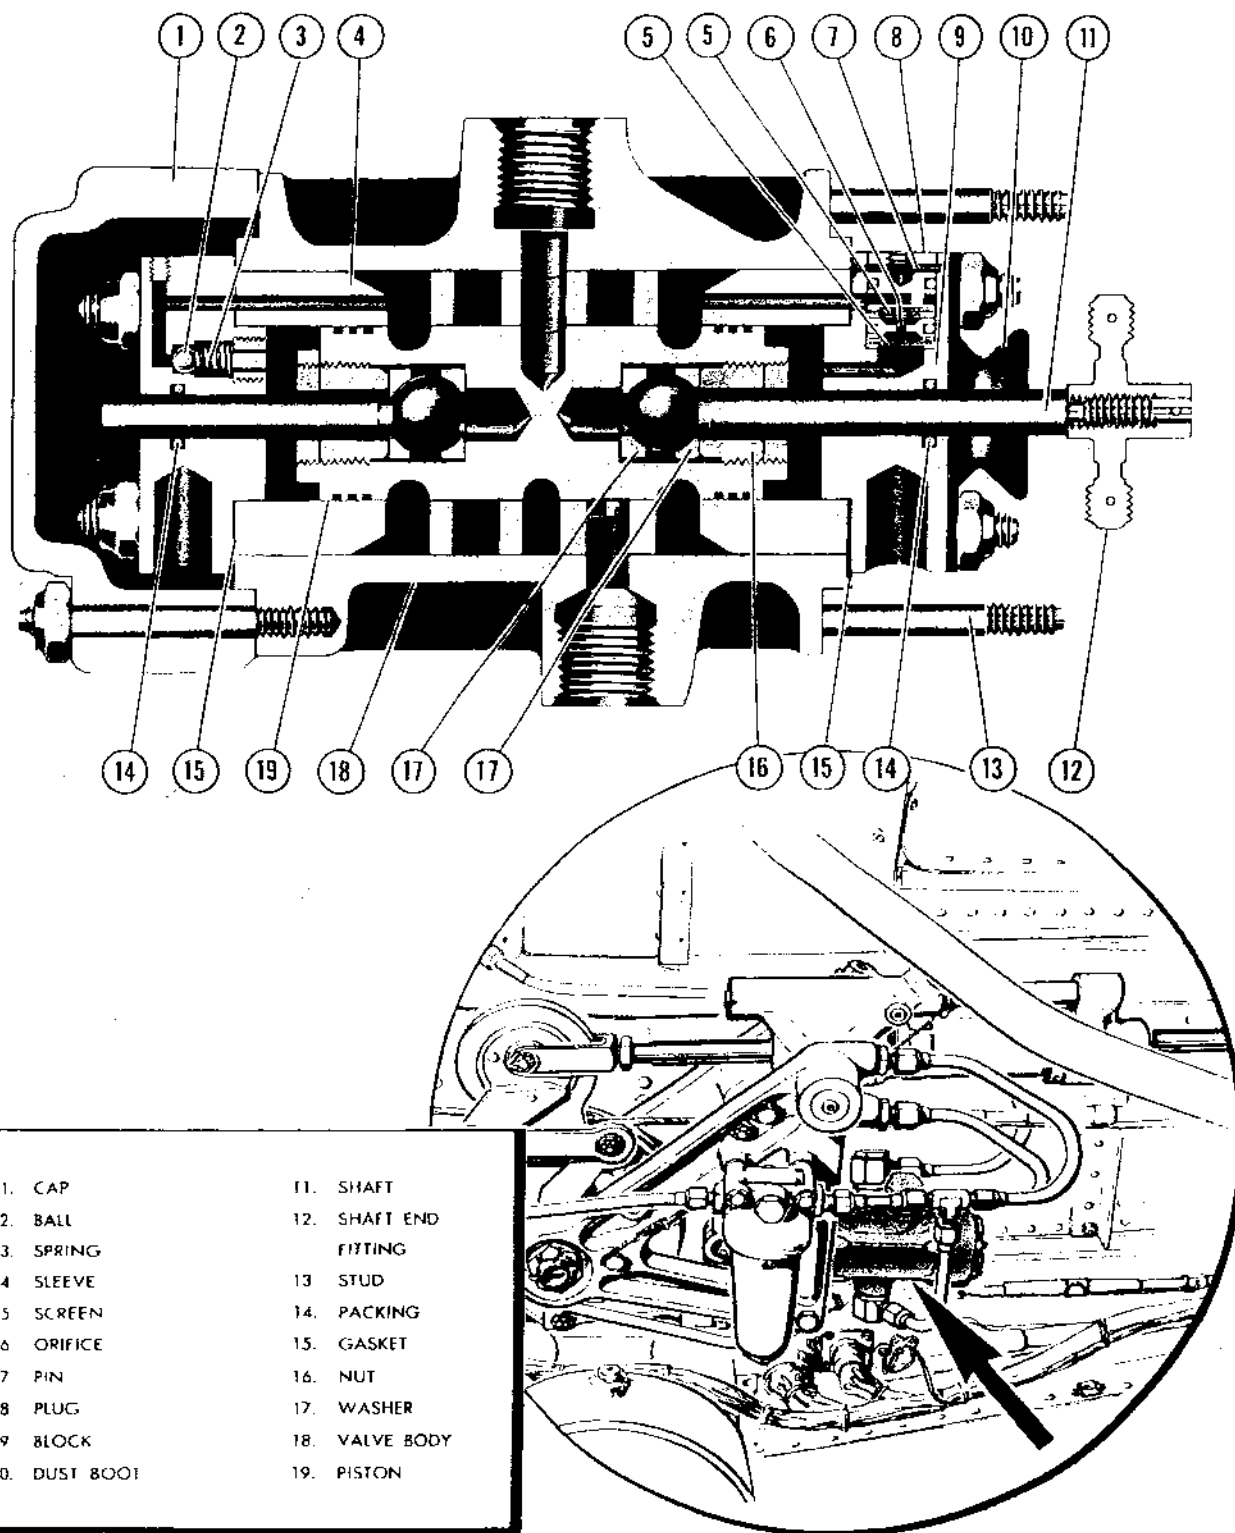

Figure 170 — Aileron Booster Control Valve
(4) AILERON BOOSTER CONTROL VALVE. (See figure 170.)
3. END BLOCKS AND CAPS. (See 9 and 1, figure 170.)
(dA) ASSEMBLY. (See figure 170.)